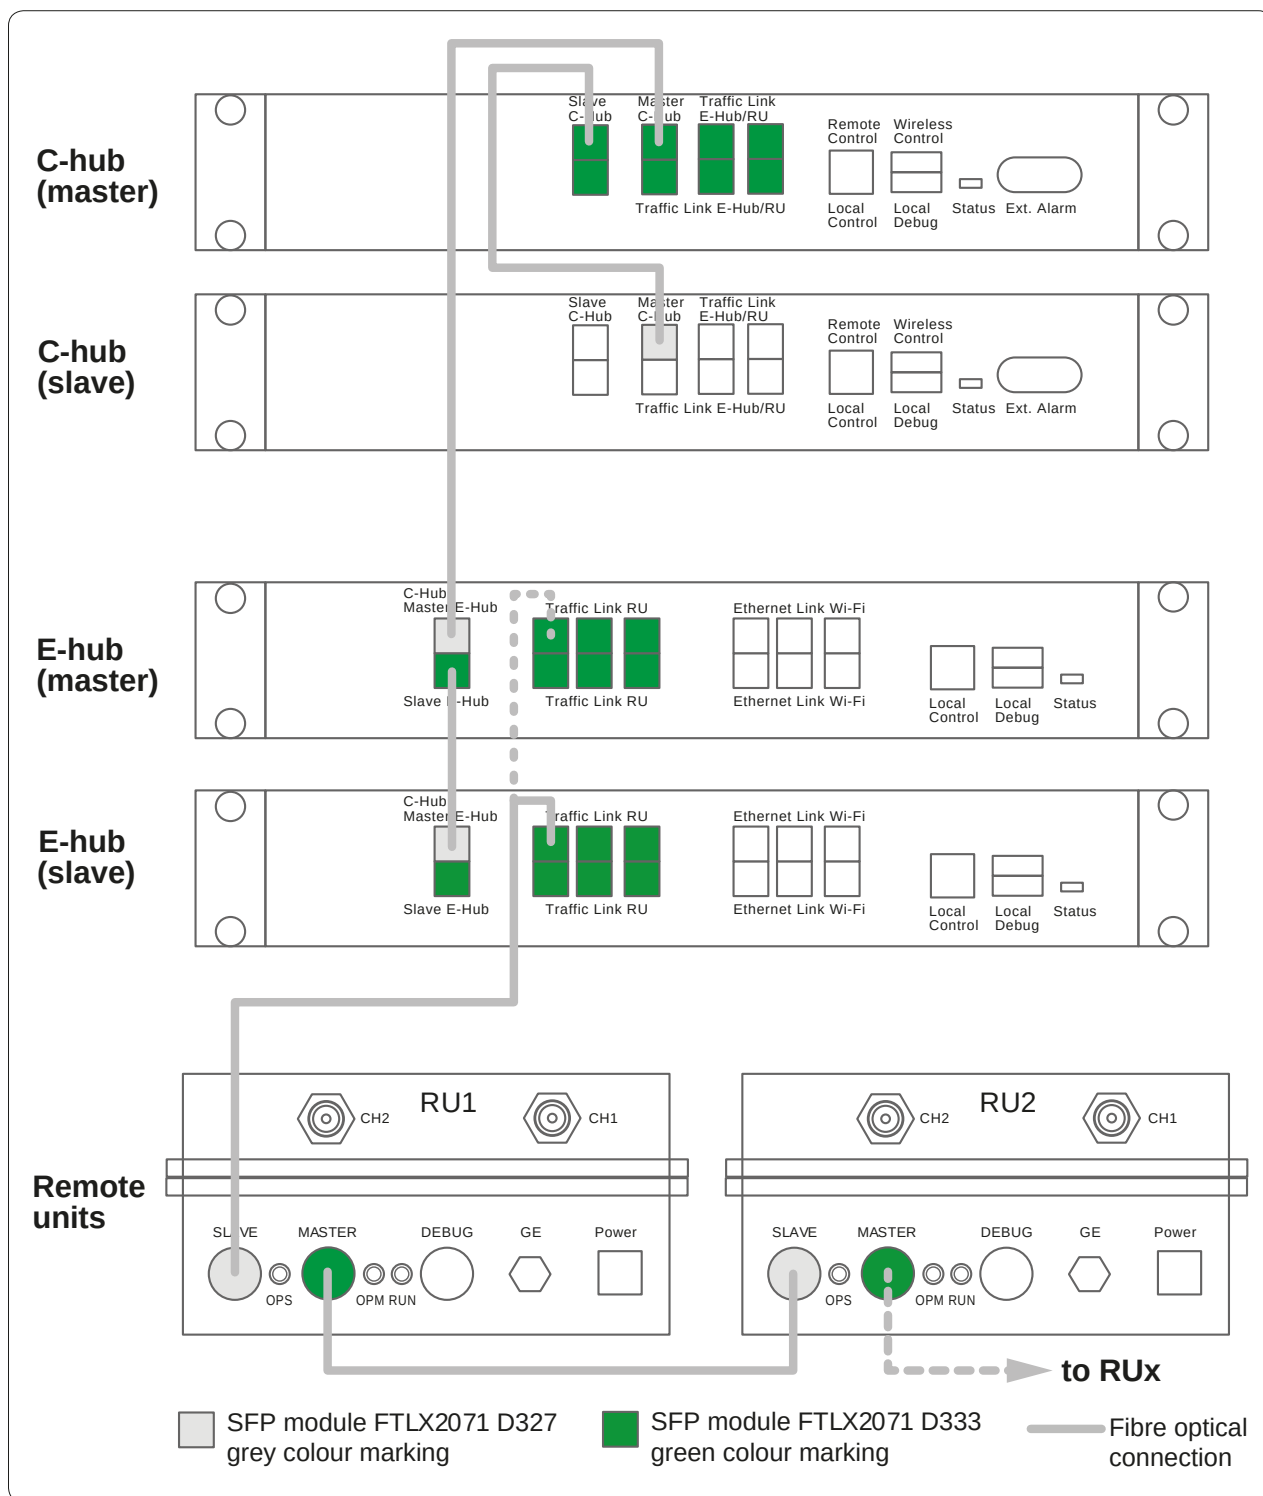

Fig. 35: Fibre optical cable layout
- 1. Carefully insert the required SFP modules. In doing so, observe the colour labelling of the SFP modules indicated in Fig. 35.
- 2. Remove the protective caps (fibre optics, SFP modules) and install the required fibre optic connections. Fig. 35 gives an overview.